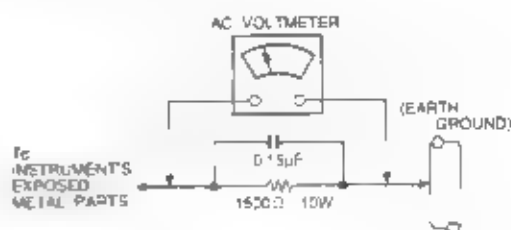

Fig.1
- 5-2 Connect a 1500 ohm, 10 watt resistor paralleled by a 0.15µF capacitor between each exposed metallic part and a good earth ground (as shown in Fig. 1).